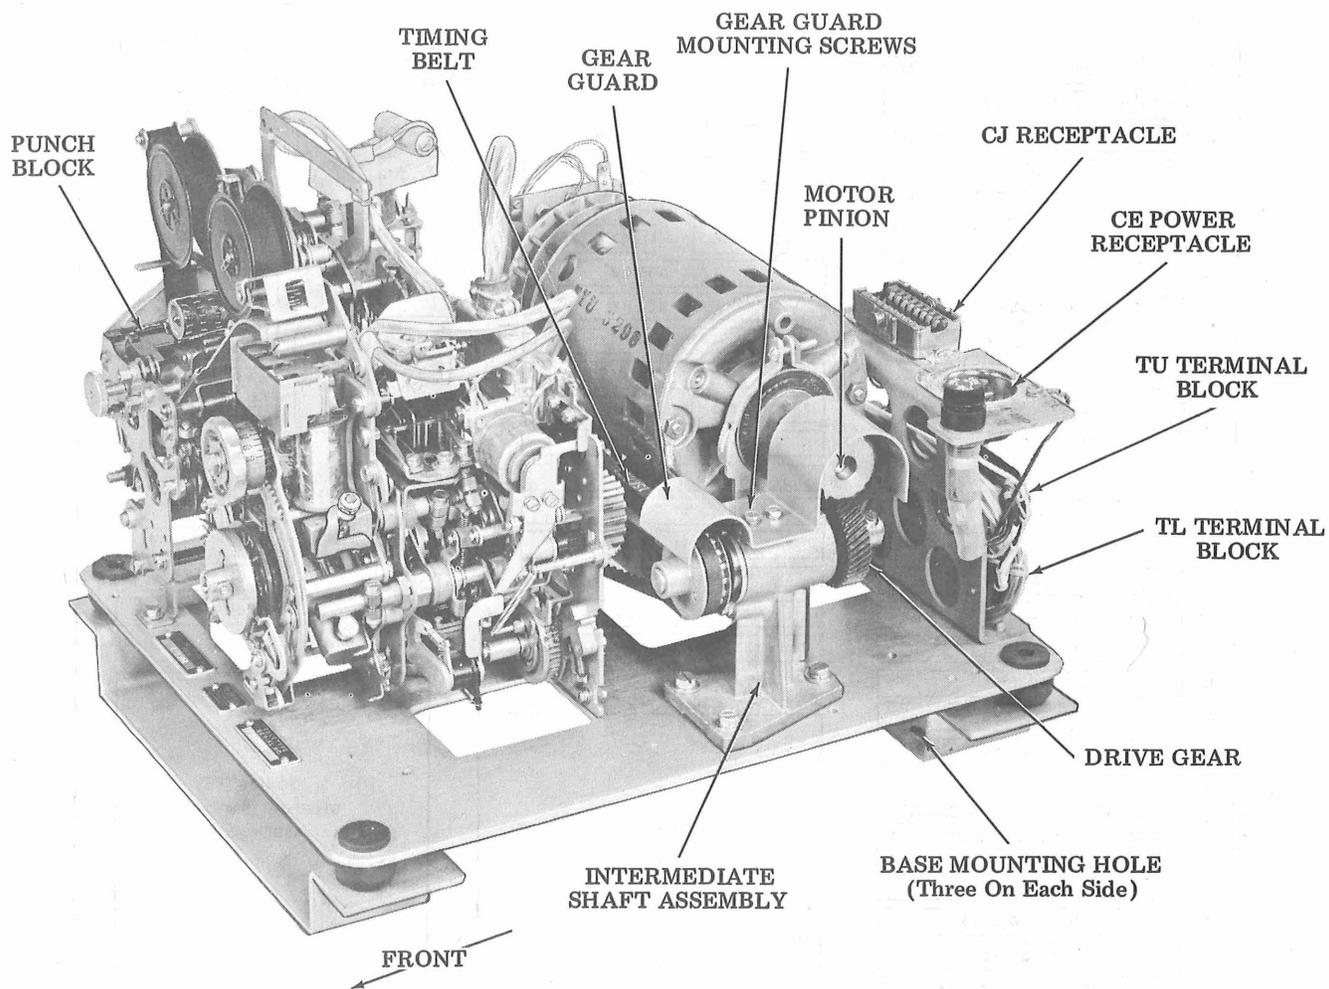

Figure 10 - Reperforator W/Base and Motor Unit
- (f) Mount the timing belt onto its sprockets (Figure 10).
3.06 There are two (2) TP304125 brackets, six (6) TP151723 screws, six (6) TP2669 lockwashers and six (6) TP35826 flat washers supplied with the reperforator base.
3.07 Position the reperforator with base and motor over the two mounting brackets on the cradle. Insert the grommets attached to the base, into the holes in the bracket. The punch block of the reperforator (Figure 10) should be on the left front corner. Adjust the brackets so that the base of the reperforator is approximately 1/16 inch away from the tape container.